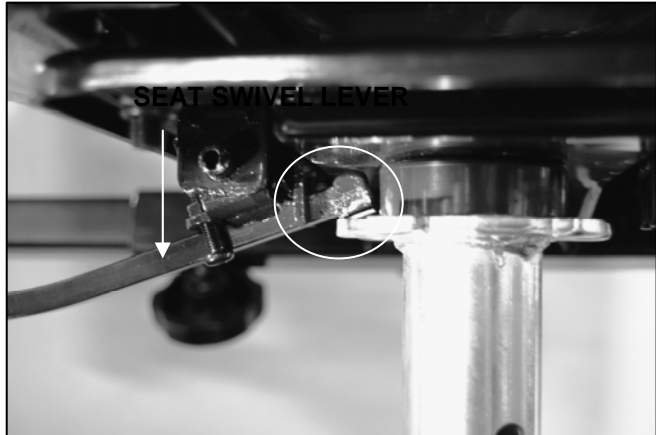

FIGURE 24. SEAT SWIVEL LEVER UNLOCKED
2. Lift the seat and position the seat swivel post into the seat post. See figure 24.